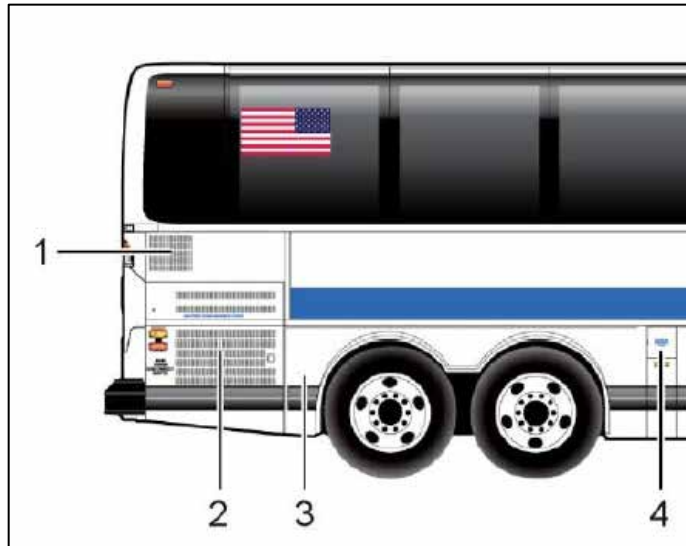

Figure 1
- 1) Open the engine compartment curb-side door (Fig. 1, Item 2,)